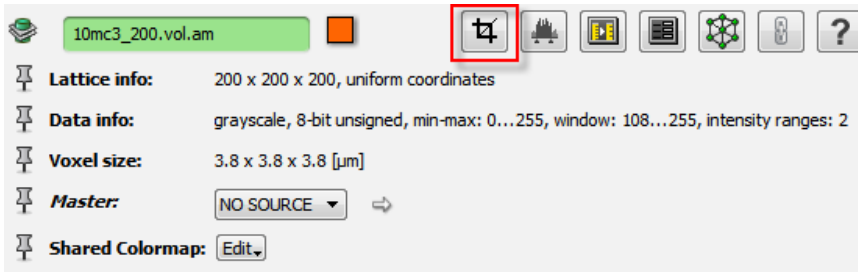

Figure 12.7: Finding the *Crop Editor* button when the data set is selected in the Project View.
- Open the *Crop Editor* by clicking on the highlighted button in Figure 12.7.